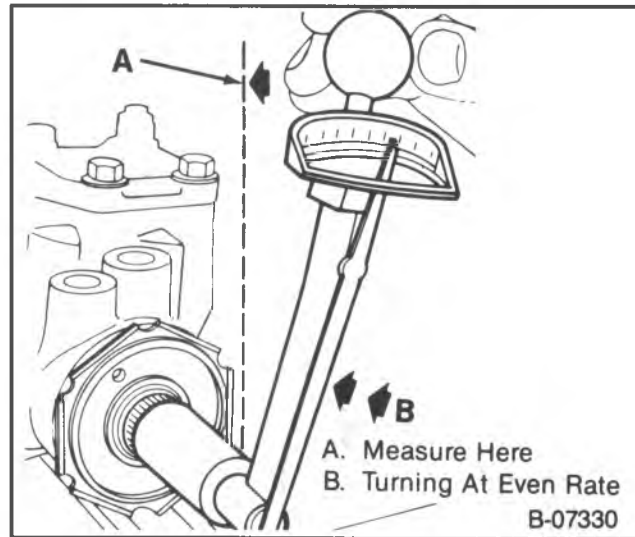

Figure 19 — Checking Rotational Torque
7. Use an inch-pound torque wrench and a 12-point deep socket to measure the required torque to turn the stub shaft (4). Take the reading with the handle of the torque wrench near the vertical position. Turn the stub shaft to the right stop and then back (counterclockwise) 1/4 turn at an even rate (figure 19). Record the torque reading.